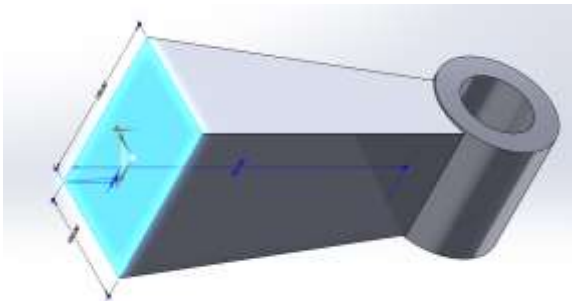
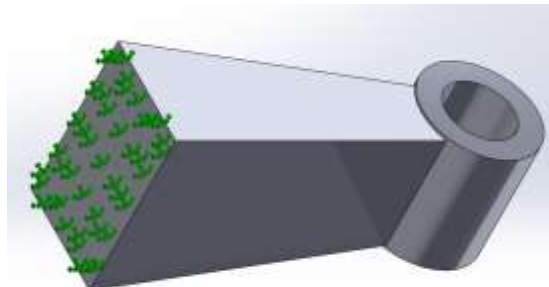

Figure 2
Figure 3
2. Right-click on *Fixtures* and select *Fixed Geometry*. Then select the face shown in Figure 2 and click *OK*. Your simulation should now look like Figure 3.